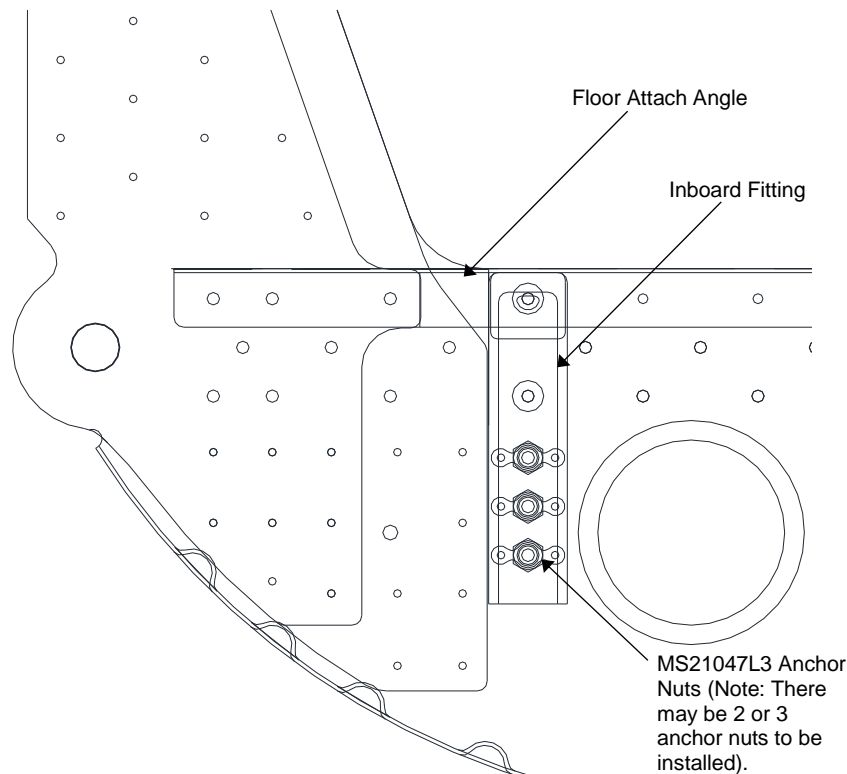

Figure 41: Inboard Fitting anchor-nut installation
- 18) Place the Inboard Fitting removed in 5-N, below the Floor Attach Angle and against Rib#6. Temporarily install an existing seat rail mounting screw through the rear seat rail attachment hole and into the inboard fitting to fasten the inboard fitting up against the skin/trim angle. (See Figure 41).
- 22) Place an MS21047L3 Anchor nut over each of the 0.191" holes, and using it as a template, back-drill the two rivet holes into Rib #6 using a #40 drill to a diameter of 0.098" (See Figure 41).
- 24) Install the MS21047L3 anchor nuts to Rib#5 using MS20426AD3 rivets (assess rivet length on installation) (See Figure 41).